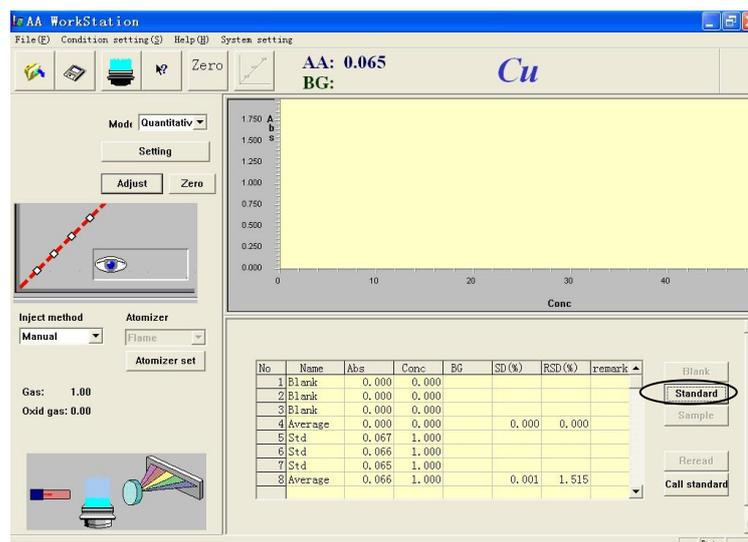

Figure 5-27
- Spray and suck the unknown sample again. Press "Unknown sample", and the screen will be shown as that in Figure 5-27.